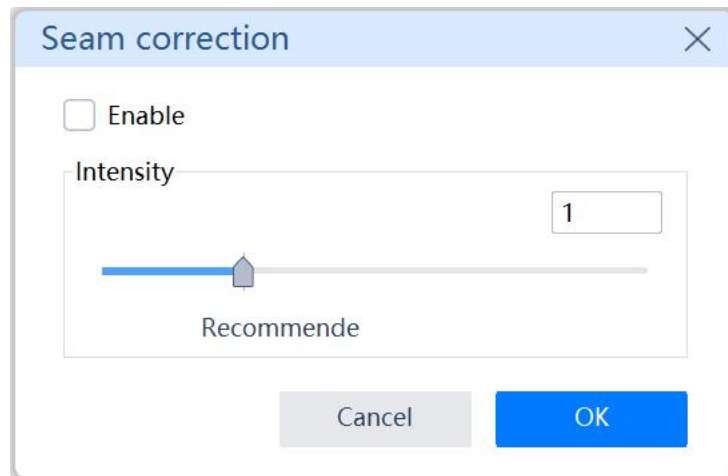

Fig.3-32 Seam correction settings
1)**Seam correction:** Click **Seam correction** in the **Project Settings** tab, and then select the **Enable** checkbox in the pop-up window to enable the seam correction function. See Figure 3-32.